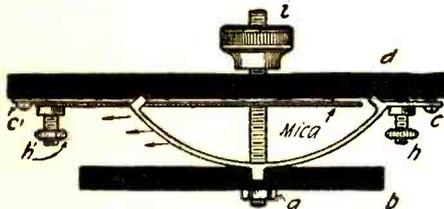
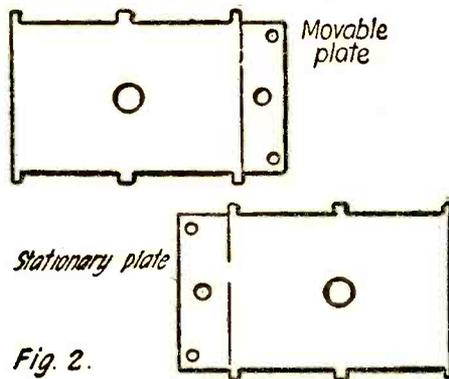

Fig. 1
Fig. 2.
- 2 brass plates (see Fig. 2),
The knob has a sharp ring into which is screwed a large threaded rod (i) about 2" long as shown in Fig. 1. This rod extends through the entire
instrument and is permanently fastened to insulating block (b) by the nut (a). Cut two plates as shown in Fig. 2, making the variable plate slightly wider than the stationary plate. Secure the rod (i) in the center of the insulating piece (b). The holes in the plates are drilled larger than the diameter of the rod (i) hole in the mica which is large enough to pass it. The movable plate (a) is fastened to the insulating block (d) by means of the two screws (c) (Fig. 1). The stationary plate is fastened to (d) by the two screws (c-1). A piece of mica is placed between the two plates and should be slightly larger than the stationary plate, thus avoiding the possibility of short circuit. Two binding posts (h) and (h-1) complete the construction.